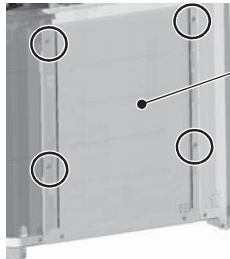

Figure 1
- (1) Remove the front heat exchanger. Refer to 8-12-11 Maintenance Procedures for the Heat Exchanger for details.
- (2) Remove the top, front, and right compressor covers. Refer to 8-12-6 Compressor Replacement Procedure for details.
- (3) Remove the duct from the control box. Refer to the control box replacement procedure for details.
- (4) Remove the right and inside (right) compressor panels by unscrewing the four screws. (Applicable only to the S-module. See Figures 1 and 2.)